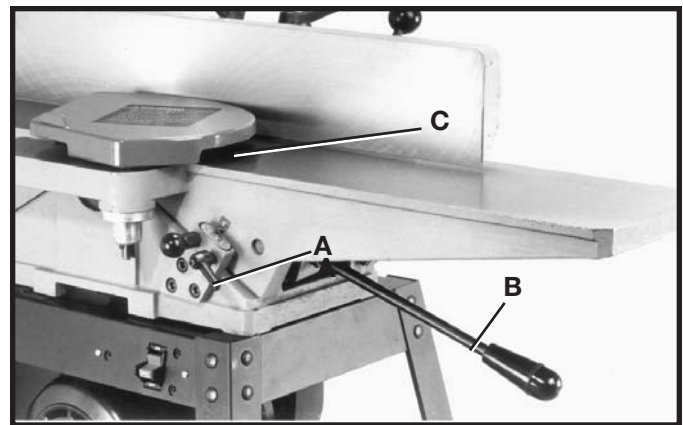

Fig. 39
2. Loosen lock lever (A) Fig. 39, and lower the infeed table by pushing handle (B) down. Remove cutterhead guard (C).
2. Move the fence to the rear and remove the cutterhead guard (C) Fig. 39.